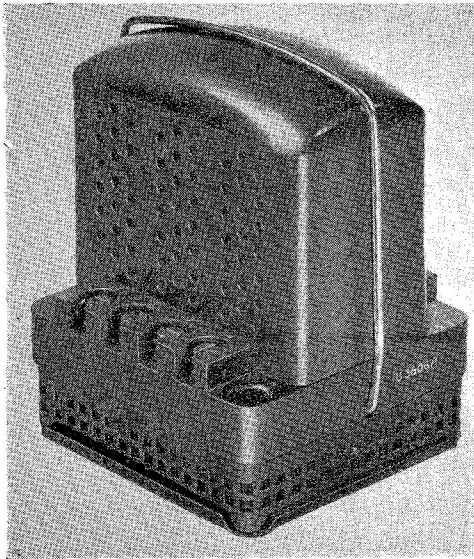

Fig. 1. General view of Type U3606/1
1. The unit (*fig. 1*) is designed for use on a 112-volt d.c. aircraft electrical system to initiate automatically the transfer of a single bus-bar load from its generator to a pair of paralleled generators and their bus-bar when the single generator voltage falls to a value of 94 ± 2 volts. The circuit also prevents the manual transfer of the single bus-bar from the paralleled generators until the single generator voltage rises to $102 + \frac{3}{-2}$ volts. The unit therefore operates both as an under-speed and under voltage relay. A transistorized trigger circuit is employed and the current available at the output terminals is adequate for the operation of a standard 12-volt, 180-ohm relay such as that embodied in relay type F7401. Transient feedback is utilized to avoid nuisance tripping of the relay.